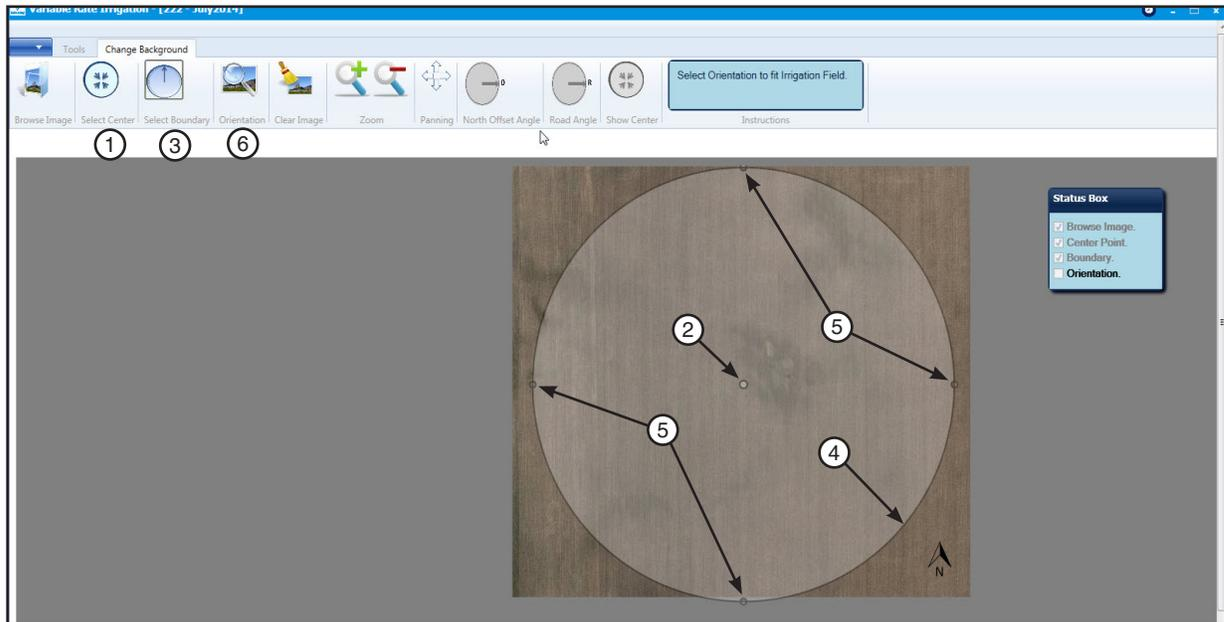

Figure 15-1 1. Select Center Button 2. Centerpoint Indicator 3. Boundary Button 4. Boundary 5. Boundary Node 6. Orientation Button
3. Click the **Select Center** button, position the cross hairs over the center of the field, and left-click to set the centerpoint. (Refer to figure 15-1.)